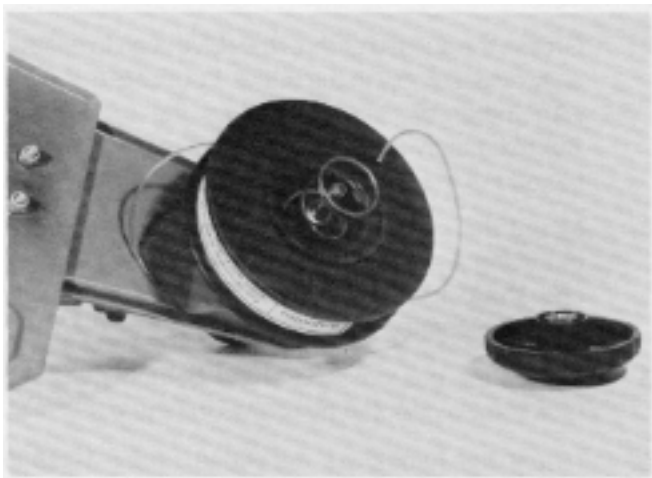

Figure 137
1. Remove the knob on the bottom of the line feed assembly by holding the drum while turning the knob *clockwise*. See Figure 137.